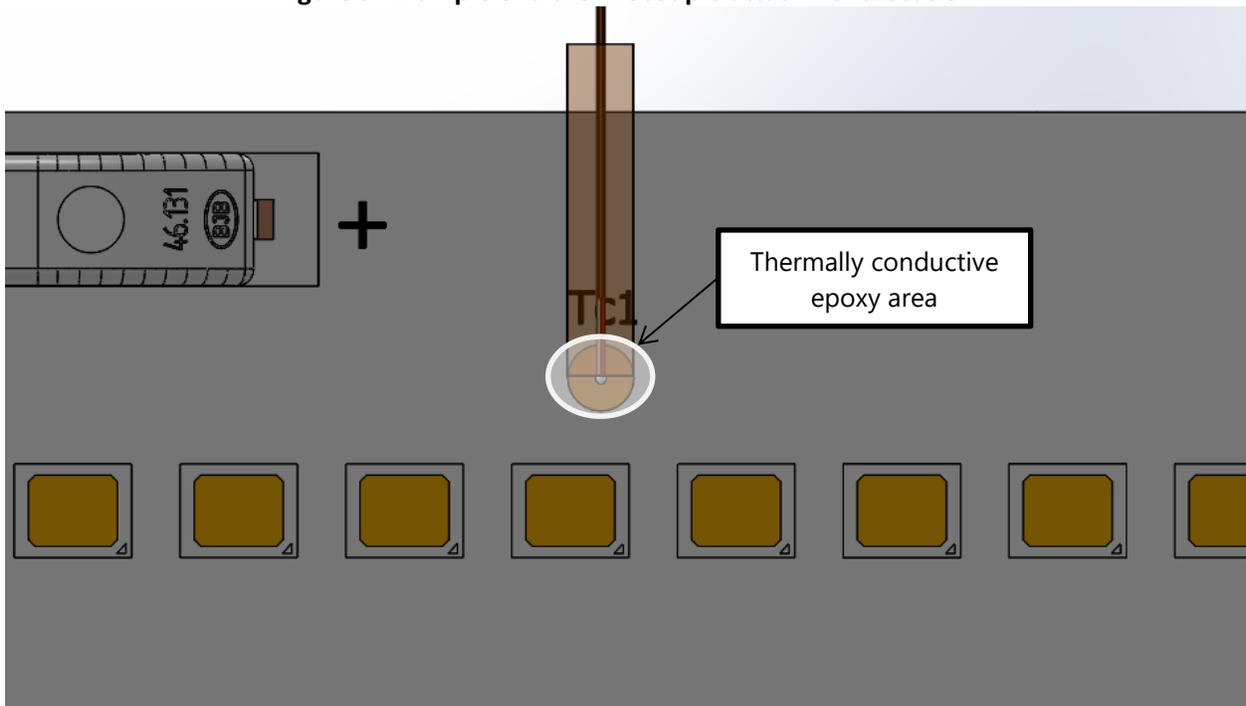

Figure 10: Example of Kapton tape being used as a strain relief and highlighting the epoxy area
- Place a small strip of Kapton tape over the thermocouple junction to insulate the thermocouple from the surrounding air temperature and tape the wire down to the top side of the housing, see Figure 10.